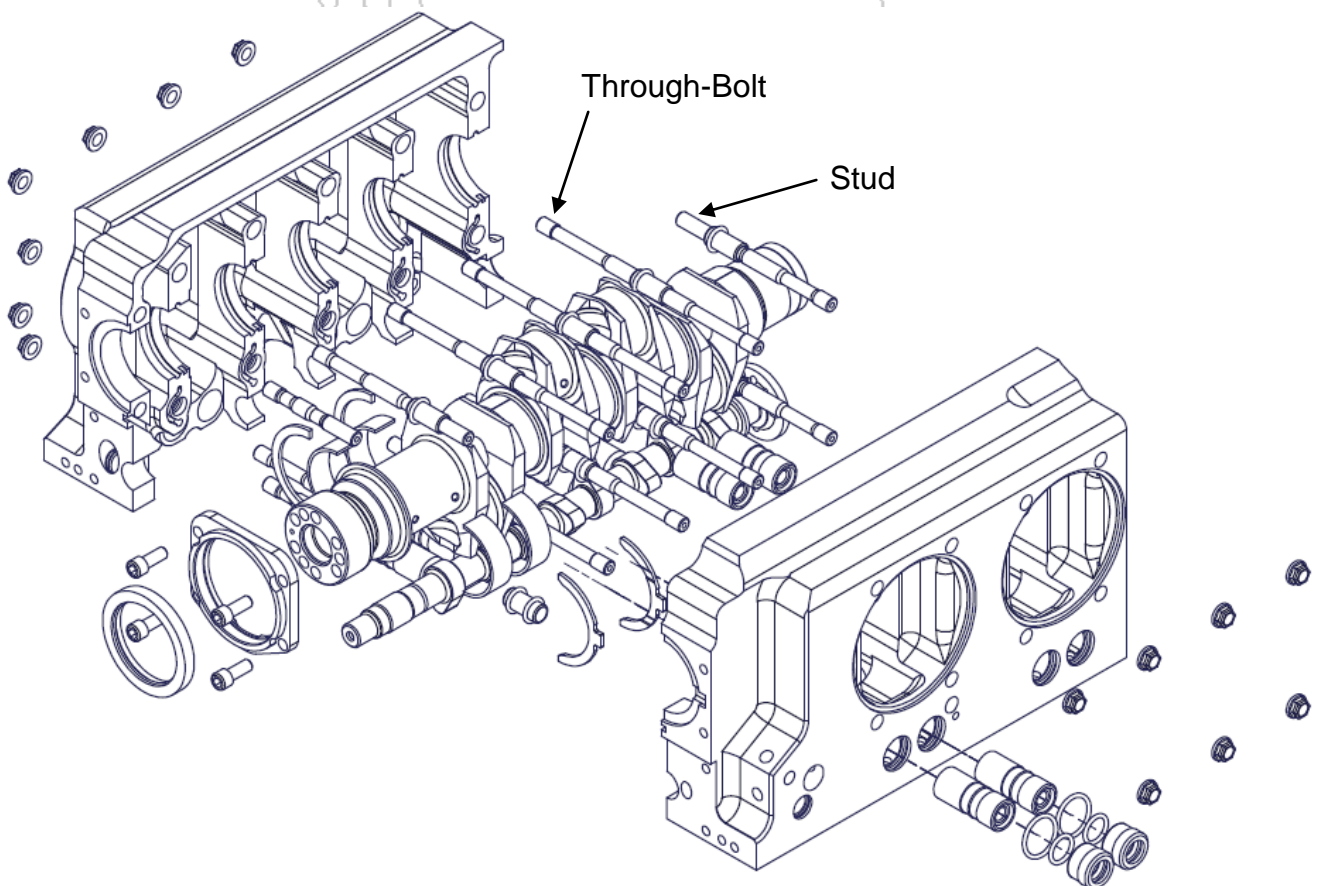

Figure 1 – General Engine Layout
- All Jabiru Engines are assembled using a combination of Through-Bolts and Studs – as shown in Figure 1 below. The number of through-bolts varies depending on which engine model is considered but there are always 6 studs (not all with the same part number). The through-bolts and studs hold the cylinders in place and the halves of the crankcases together.